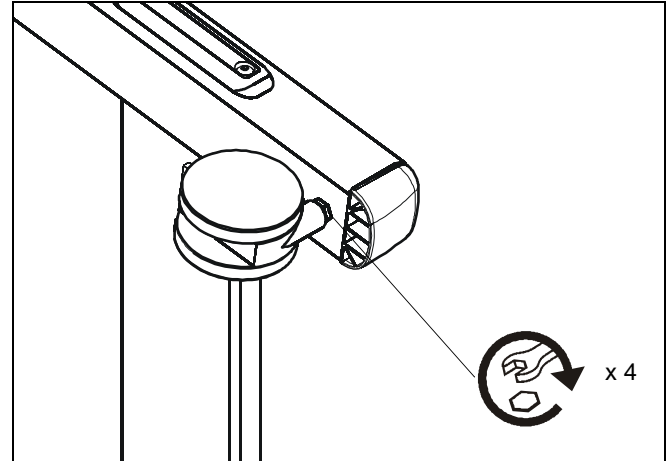

Figure 17
3. Check and tighten the hex nuts on the casters occasionally. (See Figure 17) These should be checked especially after use on uneven ground.